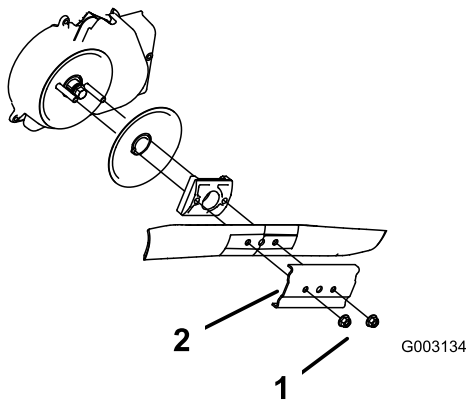

Figure 40
3. Remove the 2 blade nuts and the stiffener (Figure 40).
4. Remove the blade (Figure 40).
5. Install the new blade (Figure 40).